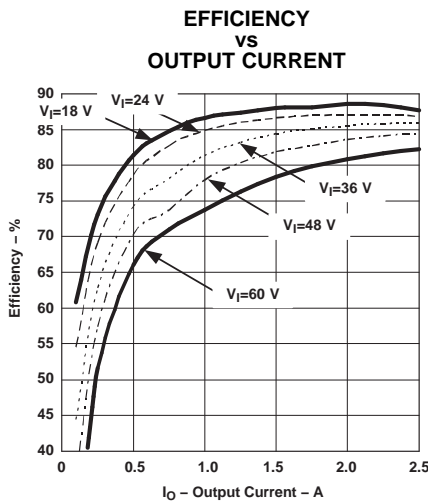
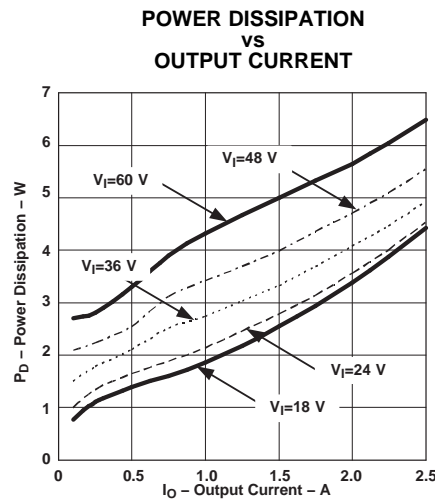
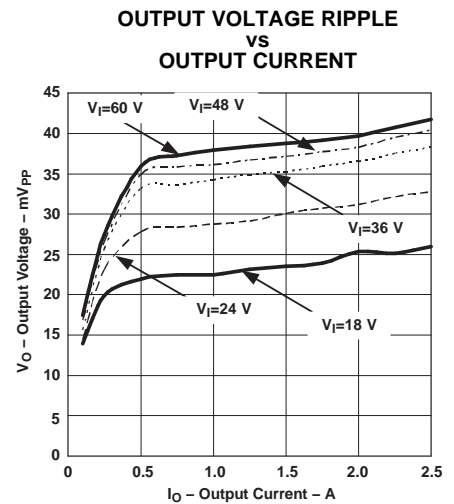

Figure 16.
Figure 17.
Figure 18.
- (7) All data listed in Figure 16, Figure 18, and Figure 17 have been developed from actual products tested at 25°C. This data is considered typical data for the dc-dc converter.